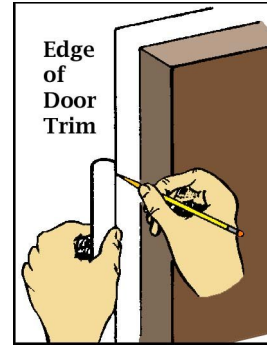

Figure 3
- **Step 6** As shown in Figure 3, using the straight edge of a steel ruler, the trim around a door, or the 12" length of brass angle, draw lines upward from the bottom of the tube for a distance of 1.5" for the fins, and 2.25" for the launch lug.